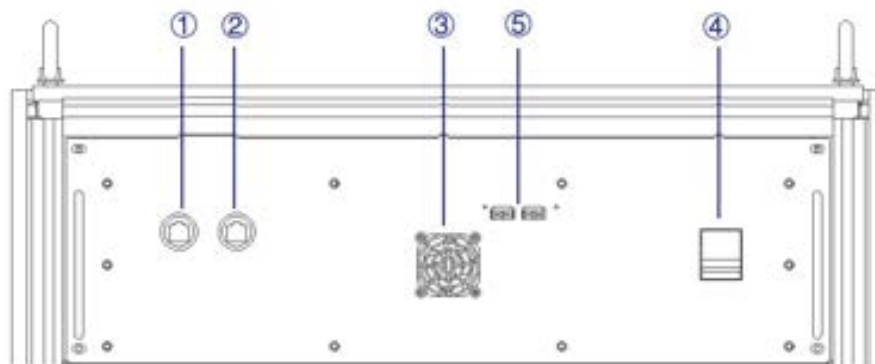

Figure 1-7 Front panel of the control module
The two LAN interfaces on front panel of the control module are used for: touch panel communication (Figure 1-7①) and hardware debugging (Figure 1-7②).
The LAN interface (Figure 1-7①) is connected to the touch panel by default before shipping. The interface (Figure 1-7②) is used for debugging before shipment. Do not use it without permission.